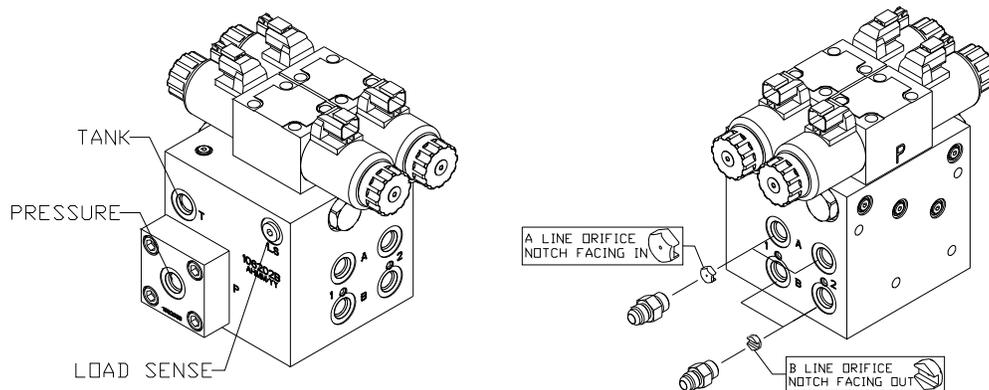

Figure 34: Double Acting NORAC Valve Block Details
3. Insert the two orifices (F01) into the “B” ports with the notch facing out. (**Figure 34**)
5. Insert the two orifices (F01) into the “A” ports with the notch facing in. (**Figure 34**)